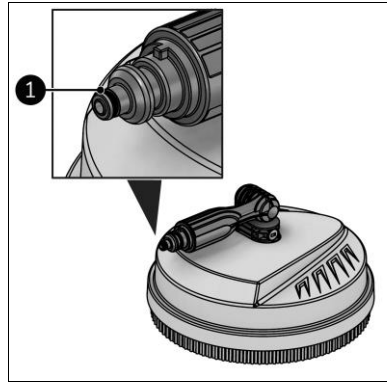

Figure 21
4. Apply Vaseline to the O-ring of the floor cleaner (Figure 21, pos. 1).